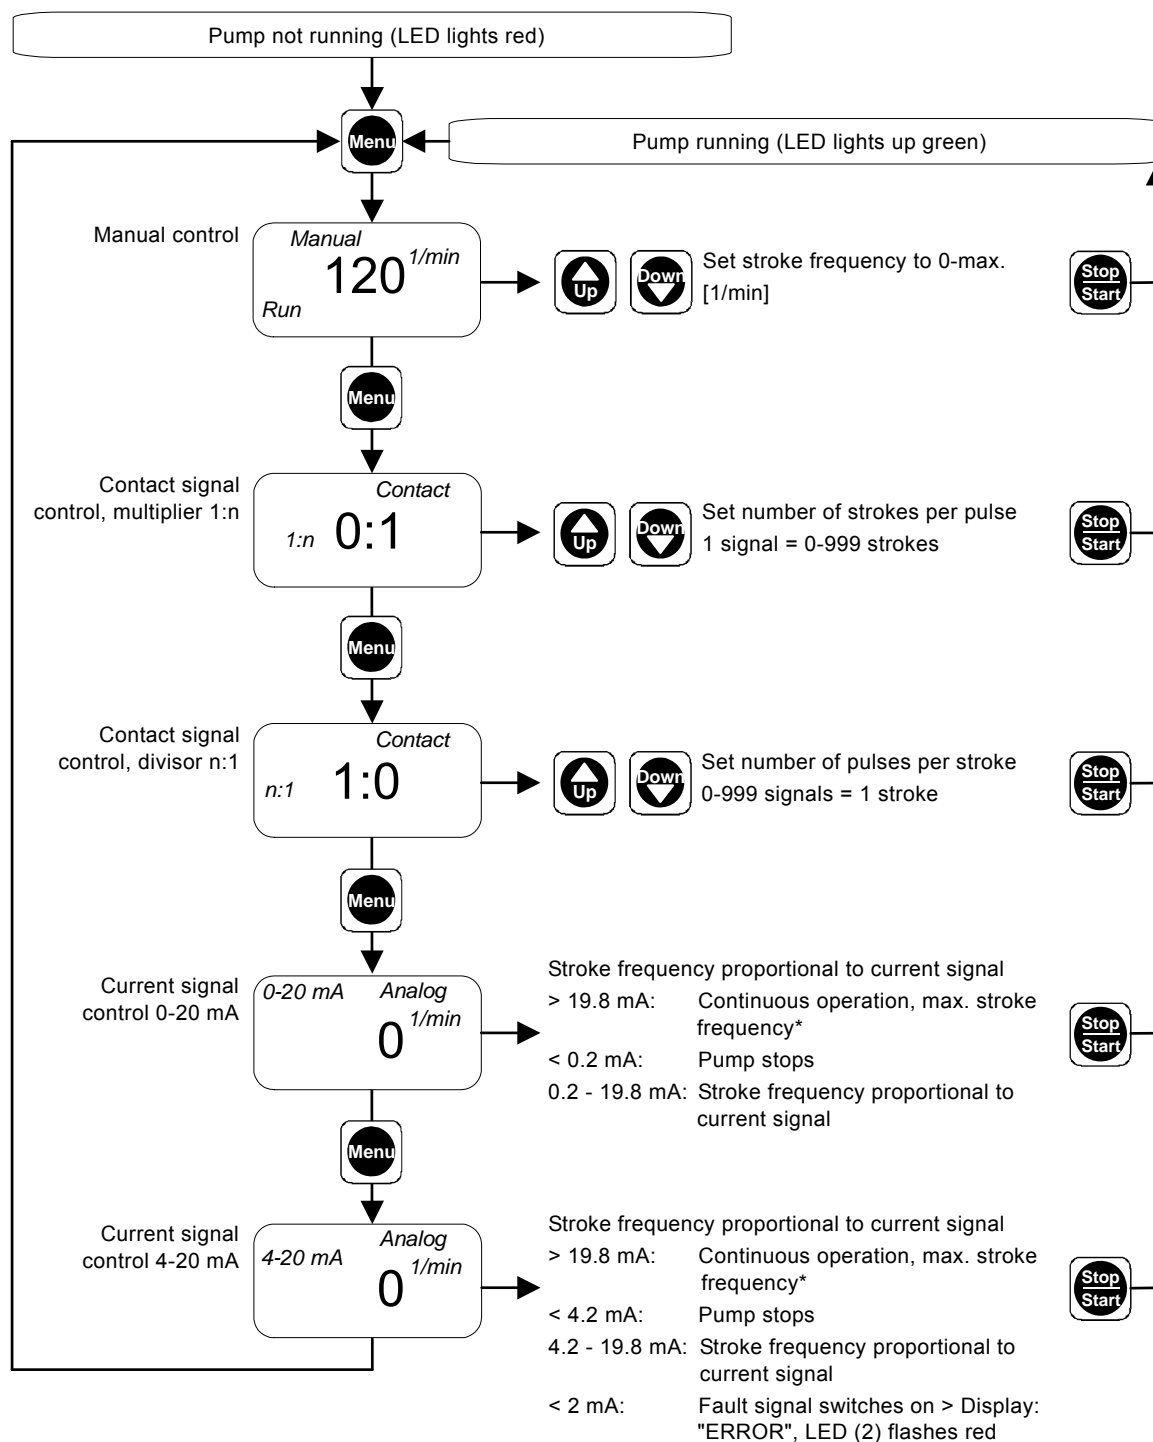

Fig. 19 First function level
3. Use the "Up" and "Down" buttons to modify the settings in the relevant menu as shown in fig. 19.